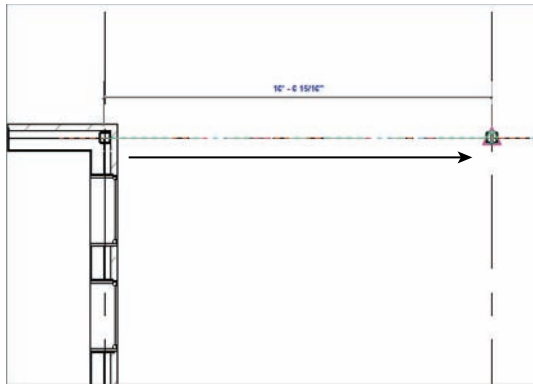

FIGURE 8.35 Adding the beam requires picking two columns.
7. Pick the second point at the exterior column F1, as shown in Figure 8.35.